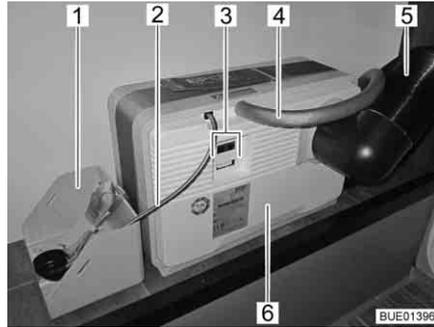
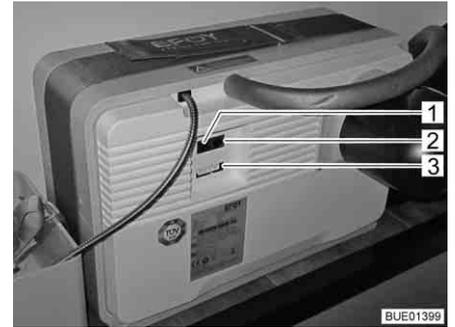
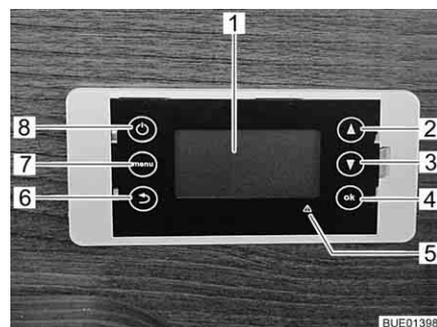

Fig. 137 Fuel cell with tank cartridge
Fig. 138 Connector panel of the fuel cell
Fig. 139 Operating unit fuel cell
The fuel cell consists of several components that are installed in the rear storage space (Fig. 137) and of an operating unit (Fig. 139) in the living area.
The following components are on the fuel cell (Fig. 137,6):
- The connector for the air discharge hose (Fig. 137,4) or the filling hole for the service fluid
- the off-heat tube (Fig. 137,5)
- electrical connections (Fig. 137,3) with data interface (Fig. 138,2), device connection (Fig. 138,3) and connection for the operating panel (Fig. 138,1)
A tank cartridge belongs to the fuel cell (Fig. 137,6). It is connected to the fuel cell via a tank connection (Fig. 137,2).
The tank cartridge is firmly fixed in the tank cartridge holder (Fig. 137,1).
The fuel cell automatically charges the living area batteries if their voltage falls below 12,3 V and if the fuel cell is switched on using the On/Off key (Fig. 139,8).
The display (Fig. 139,1) of the operating unit has four lines.
The main menu can be accessed with the menu key (Fig. 139,7):
In the event of faults, the red fault indicator (Fig. 139,5) lights up and a message appears on the display. The message consists of an error code and information on how to rectify the fault.